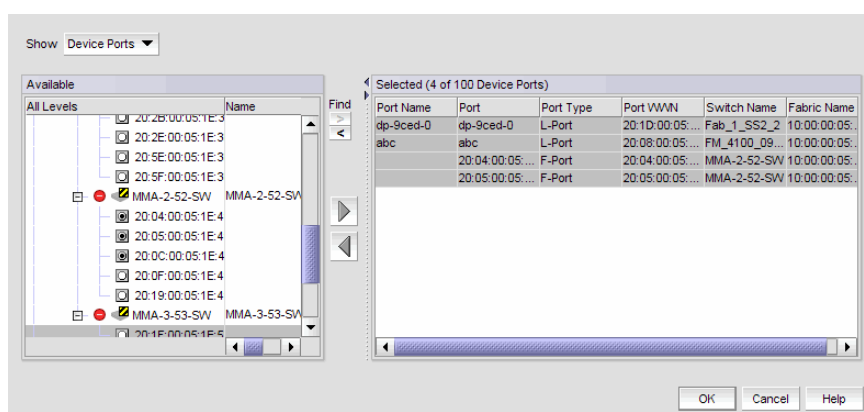

FIGURE 405 Custom Port Selector dialog box
2. Select the type of ports from the **Show** list, as shown in Figure 405 on page 951.